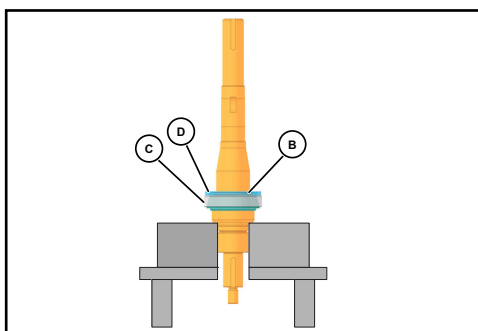

Figure 49 - Inner & Outer Spacer and Lower Cup
4. Place the inner spacer (Figure 49, item B) over the shaft onto the lower cone and roller assembly.